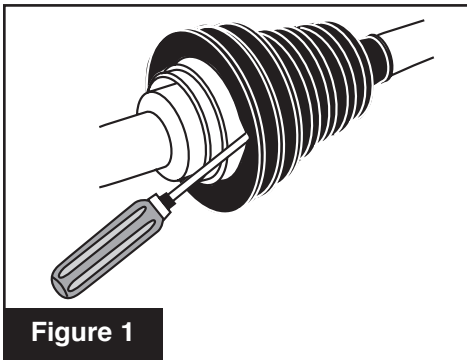

Figure 1
3. Release any trapped air with screwdriver (**Figure 1**).